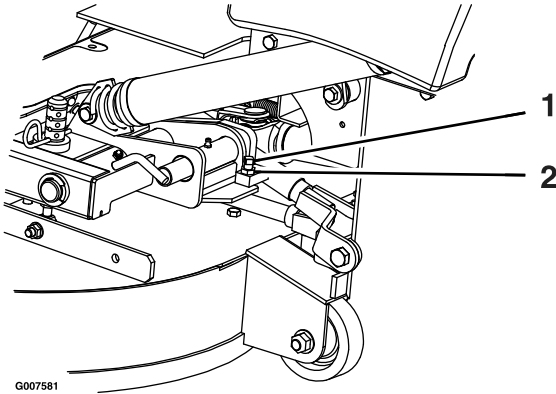

Figure 72
2. Loosen the jam nut and turn the stop screw clockwise until the locking pin is tight and cannot be rotated by hand (Figure 72).